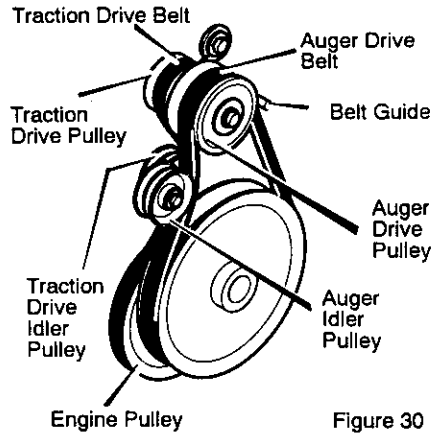

Figure 30
4. Pull the traction drive idler pulley away from the traction drive belt. See Figure 30.